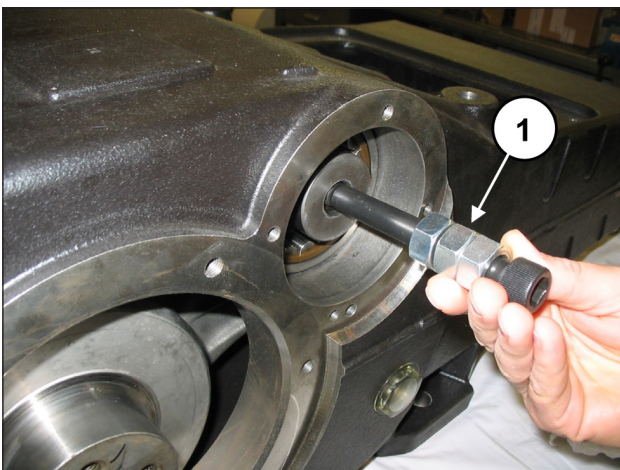

Fig. 56
It is easier to insert the PTO shaft completely inside the bearing by applying an M16 screw to the end of the shaft being inserted, to keep the shaft lifted up (pos. ①, Fig. 56).